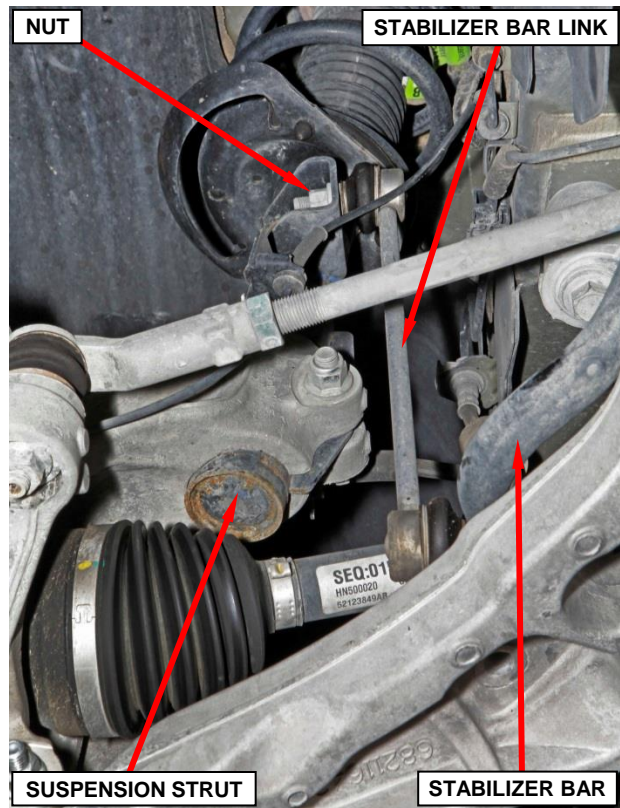

Figure 16 – Stabilizer Bar Link
20. Front stabilizer bar link to the front suspension strut on the left and right side of the vehicle. Tighten the nut to 37 ft. lbs. (50 N·m) (Figure 16).